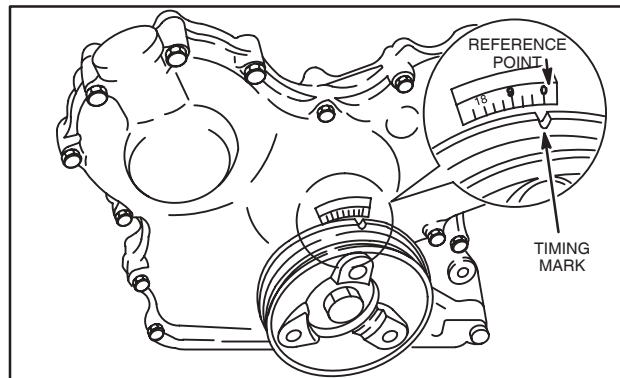

Fig. 8 – Align Timing Marks
- Slowly rotate crankshaft clockwise until timing mark on pulley aligns with reference point on gear case cover (TDC), Fig. 8.